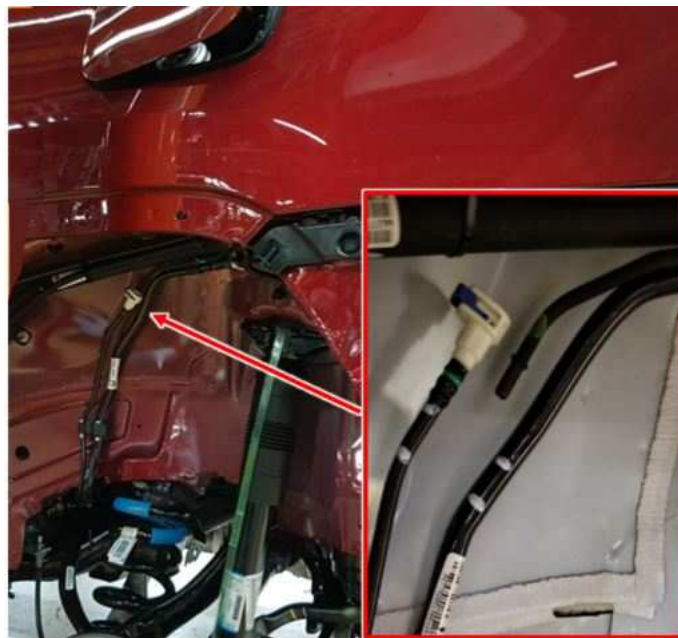

Fig. 2
4. Pull the top of the wheel well down to gain access to the vapor hose (Fig. 2) .